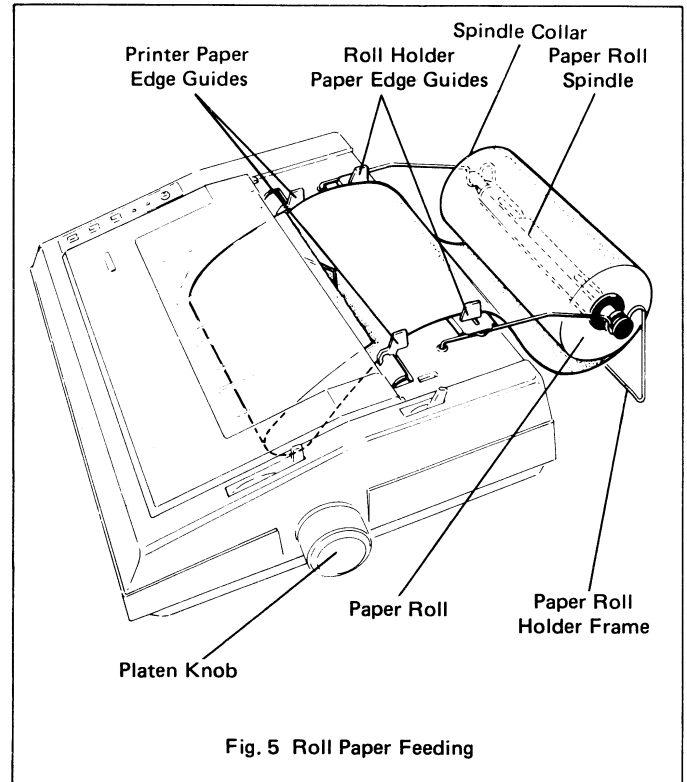

Fig. 5 Roll Paper Feeding
- (1) Ensure that the printer is Off-line and that the Paper Roll Holder is fitted (see Installation of Paper Roll Holder). The Tractor Unit may be left in place, in which case the tractors should be moved out clear of the paper, or it may be completely removed (see Removal of Tractor Unit).
- (2) Move the paper edge guide on both the printer and the Paper Roll Holder as far out as they will go.
- (3) Move the paper bail lever fully forward and ensure that the platen release lever is in the back position.
- (4) Fit the new paper roll on the paper roll spindle (pushing it down against the collar) and position the spindle on the Paper Roll Holder so that the spindle collar is to the left of the roll and the paper feeds off the bottom of the roll (printing side underneath), (see fig. 5).
- (5) With the printer's lid closed, feed the paper under the paper guide and behind the platen. Rotate the platen knob so that paper is fed around the platen. As the paper approaches the underside of the lid, move the paper bail lever back so that it captures the paper. Keep feeding the paper until it appears from under the back edge of the lid.
- (6) Align the paper so that the desired margin position coincides with column 0 on the paper bail scale and so that the edges of the paper entering and leaving the printer are in line. Move the platen release lever forward temporarily to assist in paper alignment. It may also be necessary to slide the paper roll on its spindle to achieve smooth paper feeding.
- (7) Move both pairs of paper edge guides in to just touch the edges of the paper.
- (8) Space the rollers on the paper bail evenly across the width of the paper.
- (9) Ensure that the printer is set for the correct line length (and form length and skip zone if required). The host may change these by command or the configuration DIP switches SW1/5 (and SW1/3, 4, 6 and 7) may be changed.
- (10) Set the printer On-line. Note that the back edge of the lid can be used to tear off paper.
The Paper Roll Holder consists of a wire frame with paper edge guides and a plastic spindle (see fig. 5). To fit the holder: